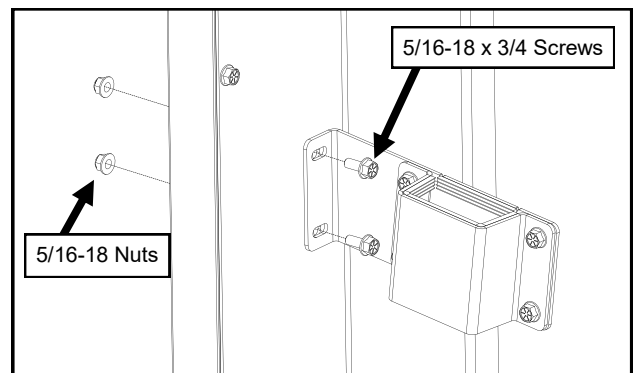

Fig. 6.4 (Rear Leg to ROPS Bracket Fasteners)
6.4 Fasten the rear leg to the previously installed ROPS brackets. See Figure 6.4.